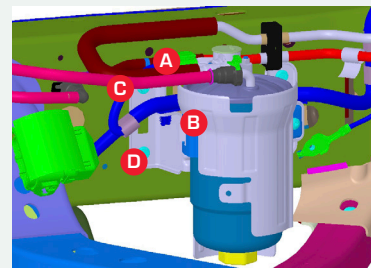

FIGURE 3
- 1 Loosen harness fixed points A & B in the OE filter left side as per FIG. 3.